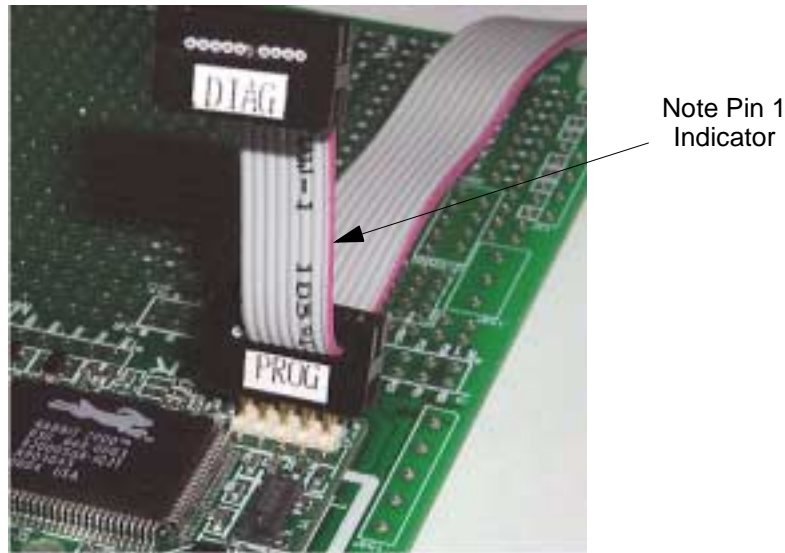

Figure B-2. Attaching Programming Cable to the RCM2200
2. Connect the Rabbit programming cable to the RCM2200 as shown in Figure B-2.
Connect the 10-pin connector of the programming cable labeled **PROG** to header J1 on the RCM2200 module as shown in Figure B-2 below. Be sure to orient the marked (usually red) edge of the cable towards pin 1 of the connector. (Do not use the **DIAG** connector, which is used for a normal serial connection.)